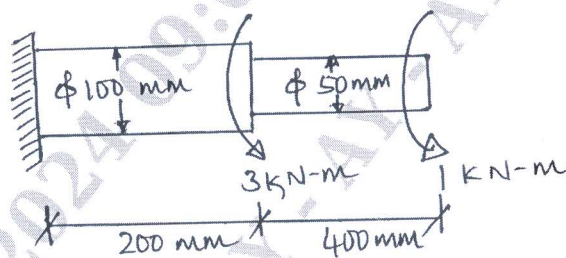

Fig. Q6 (b)
b. A solid stepped bar of circular cross section is subjected to a torque of 1 kN-m at its free end and to a torque of 3 kN-m at its change in cross section as shown in Fig. Q6 (b). Determine the angle of twist and shear stresses in the bar. Take  $E = 2 \times 10^5 \text{ N/mm}^2$  and  $G = 7 \times 10^4 \text{ N/mm}^2$ .